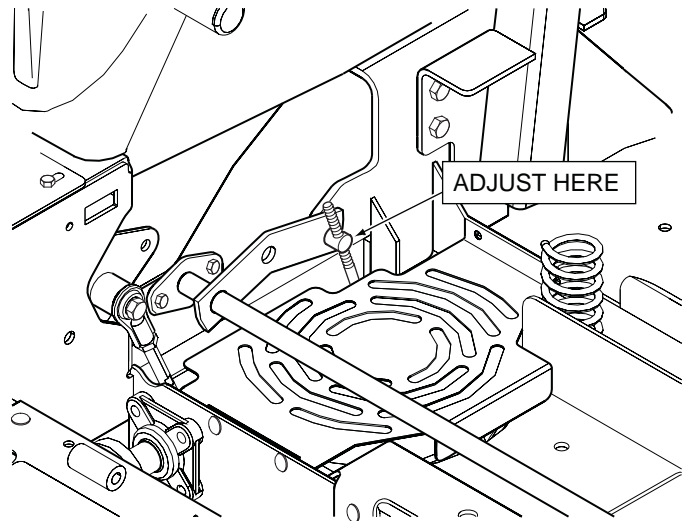

Figure 6-2. Brake Rod Adjustment
4. Remove the cotter pin securing the pivot to the brake control linkage. (See Figure 6-2).